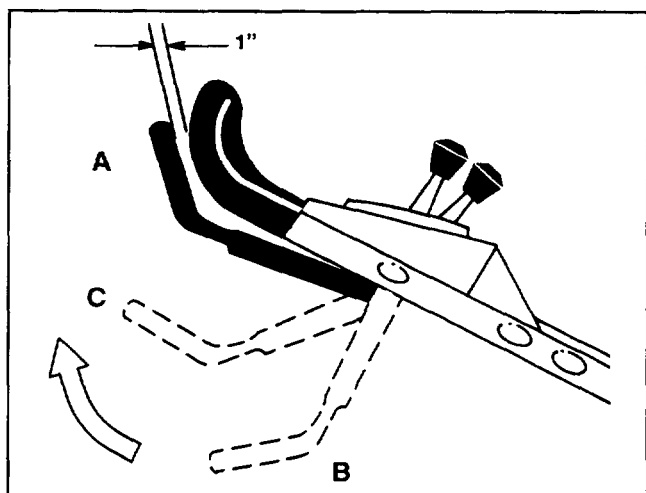

Figure 13
8. Lift control bar to the normal "blade engaged" position (about one inch below the handle) (Fig. 13, position A). The "fan" noise indicates that the mower blade is turning.
9. Release the control bar (Position C, Fig. 13) A "bang" should be heard. The blade should stop running in three seconds.